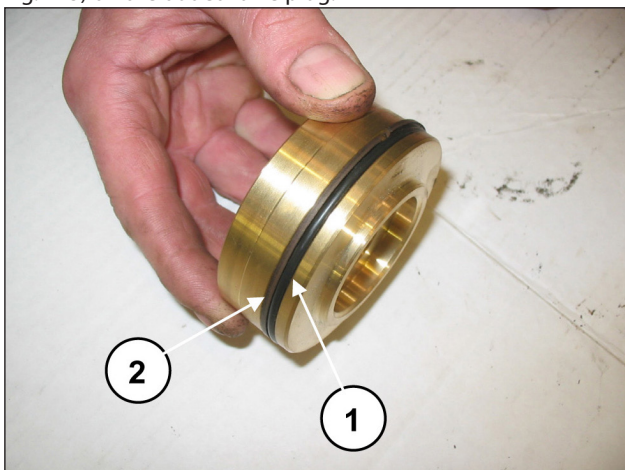

Fig. 125
Assemble the O-ring, exploded view pos. 19 (pos. ①, Fig. 125) and the anti-extrusion ring, exploded view pos. 23 (pos. ②, Fig. 125) on the outlet valve plug.